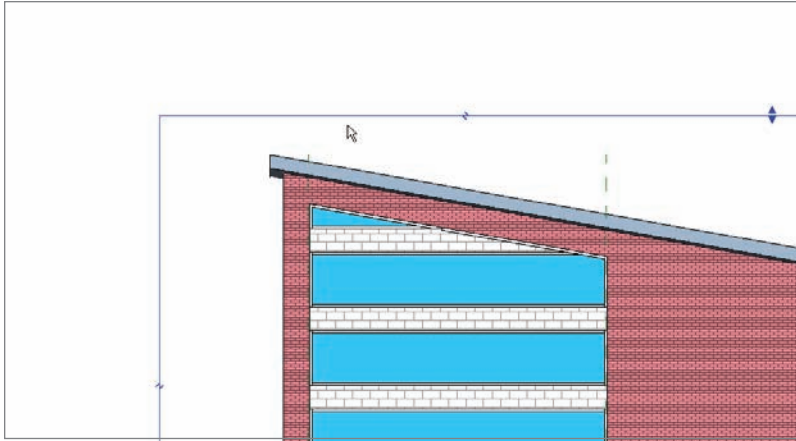

FIGURE 16.39 The crop region is selected. You can tell by the grips and the break icons.
3. Select the crop region as shown in Figure 16.39.